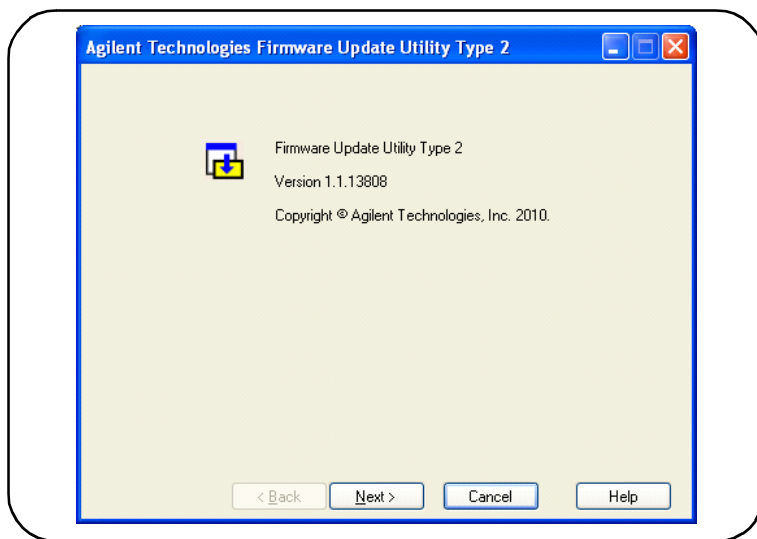

Figure 2-9. Firmware Update Utility File Selection Window.
1. From the installation directory or ‘start’ menu, start the utility. A window similar to that shown in Figure 2-9 should appear.